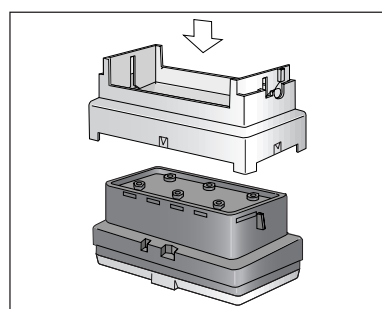

figure 9
- 3 Place the skirt (middle section) over the top of the stamp (see figure 9), and then push it down firmly until the upper edge of the stamp skirt is below the top of the stamp holder.